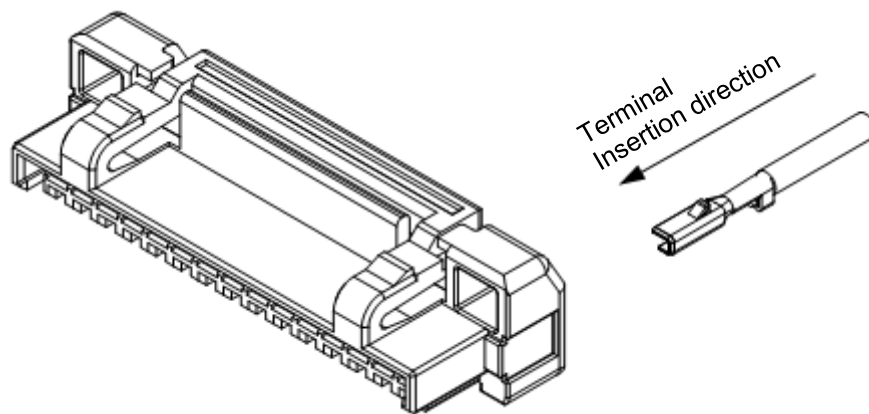

Fig.6-1
- ③ Hold wire and have terminal lance part toward receptacle housing, then insert terminal slowly and straightly till the tip of terminal touches housing (with force of around 300~500g). (Fig.6-1)